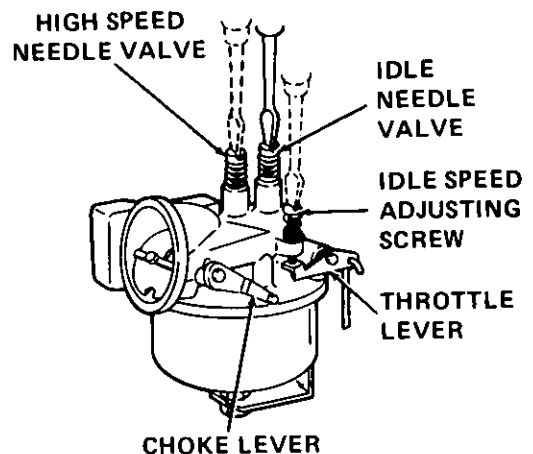

Figure 27. Carburetor Adjustment
#### CARBURETOR ADJUSTMENTS (See Figure 27)
**INITIAL ADJUSTMENT** — Turn idle and needle valves clockwise until they close (see Figure 27).
turn needle valve to the midpoint between rich and lean so the engine runs smoothly (see Figure 27).